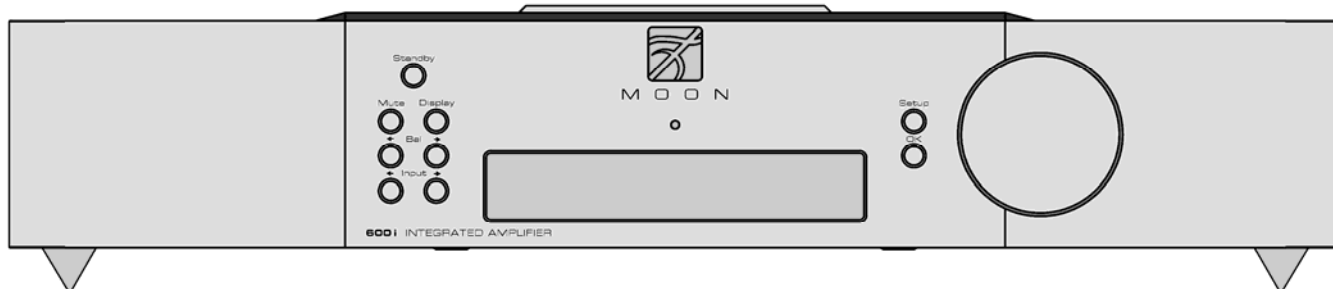

Figure 1: Front panel of MOON 600i dual-mono Integrated Amplifier
The front panel will look similar to Figure 1 (above). The large display window normally indicates the current volume level and, whenever you change the input, it will briefly show the selected input label. Located to the left side of the display are seven (7) buttons; To the right side of the display is *large rotary volume control and two (2) more buttons for a total of nine (9) which are all described in detail below:*